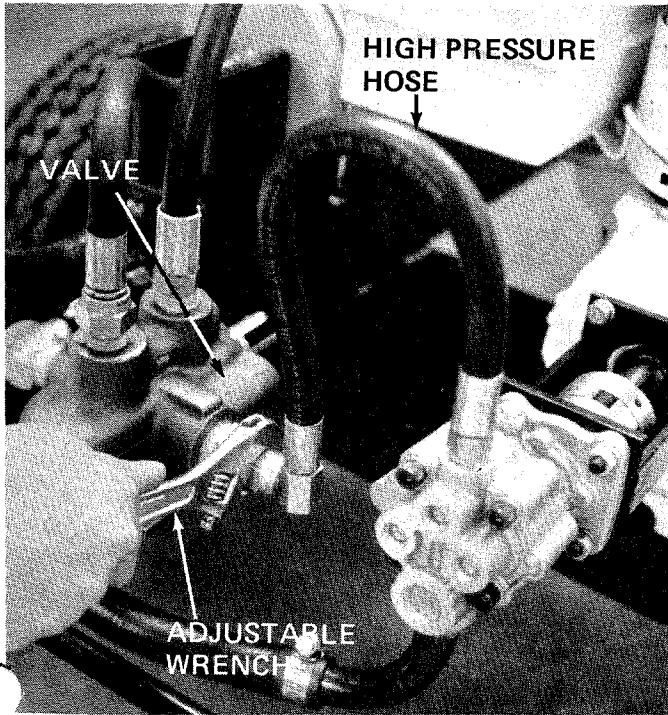

FIGURE 9
9. Secure the other end of high pressure hose to valve. A 3/4" wrench is required. See figure 9.